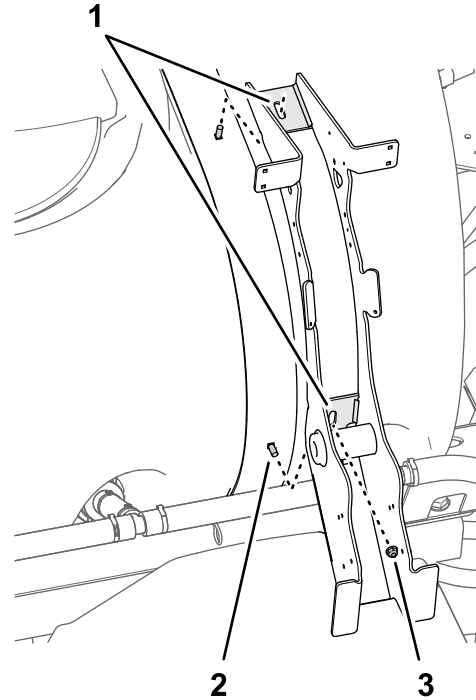

**Figure 13**
1. Remove the 2 flange locknuts securing the tank-lid stop to the 2 carriage bolts at the rear strap of the sprayer tank, and remove the tank-lid stop (Figure 13).